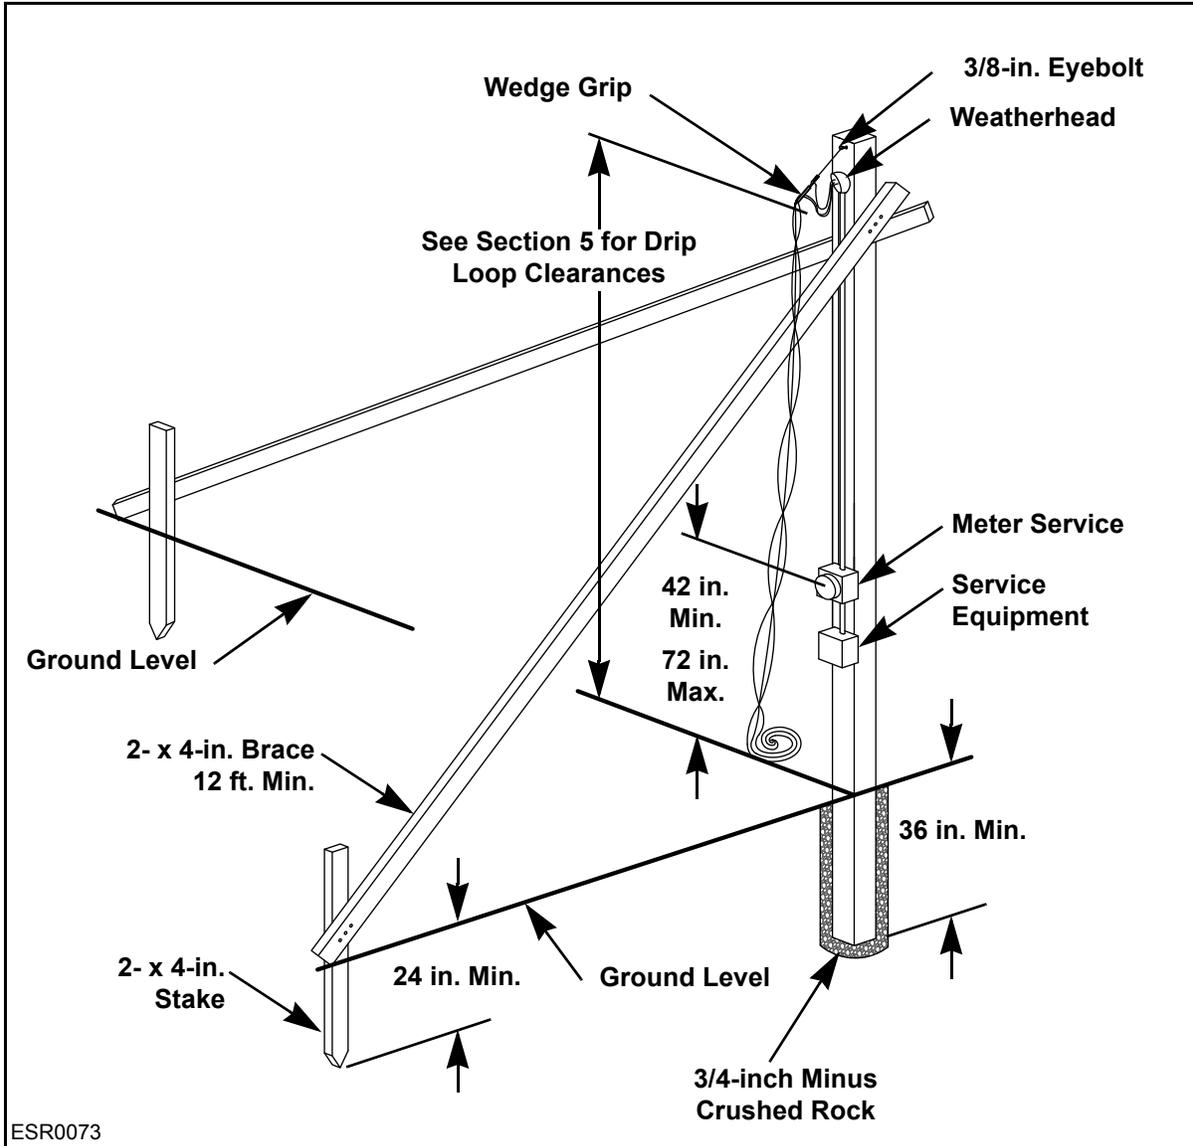
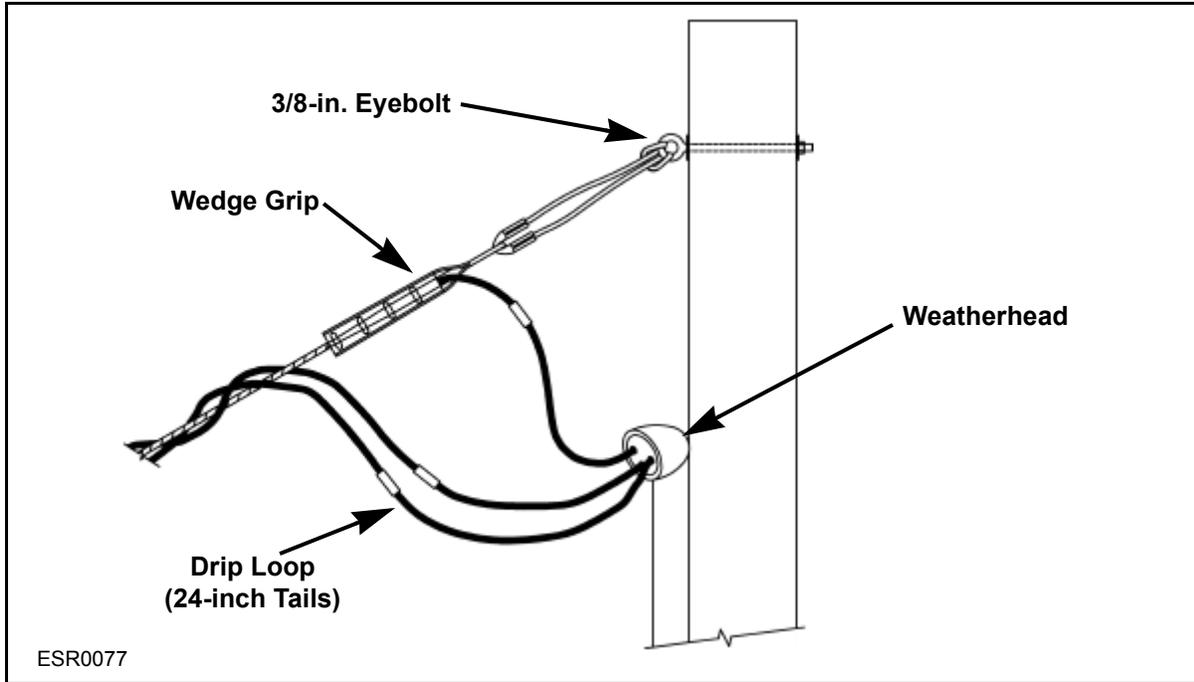

Figure 4-1: 6- x 6-inch Overhead Service Post in a Nonroad Crossing
Figure 4-3: Detail of Attachment Point and Connection Point
- See **Figure 4-1** for an overhead service in a nonroad crossing.
- See **Figure 4-3** for a detail of the attachment point and connection point.
An overhead service post in a nonroad crossing is shown **Figure 4-1**. See **Figure 4-3** for a detail of the attachment point and connection point.
Figure 4-3 shows a detail of the attachment point and connection point.